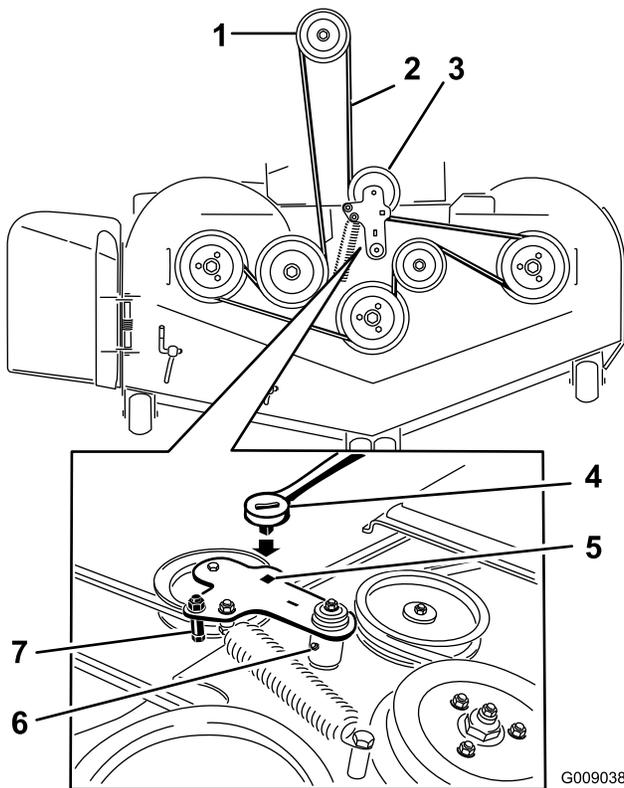

Figure 86
5. Use a ratchet in the square hole in the idler arm to remove tension on the idler spring (Figure 86).
7. Remove the belt guide on the spring-loaded idler arm (Figure 86).
9. Install the new belt around the mower pulleys and the clutch pulley under the engine (Figure 86).
10. Install the belt guide on the idler arm (Figure 86).
11. Using the ratchet in the square hole, install the idler spring (Figure 86).